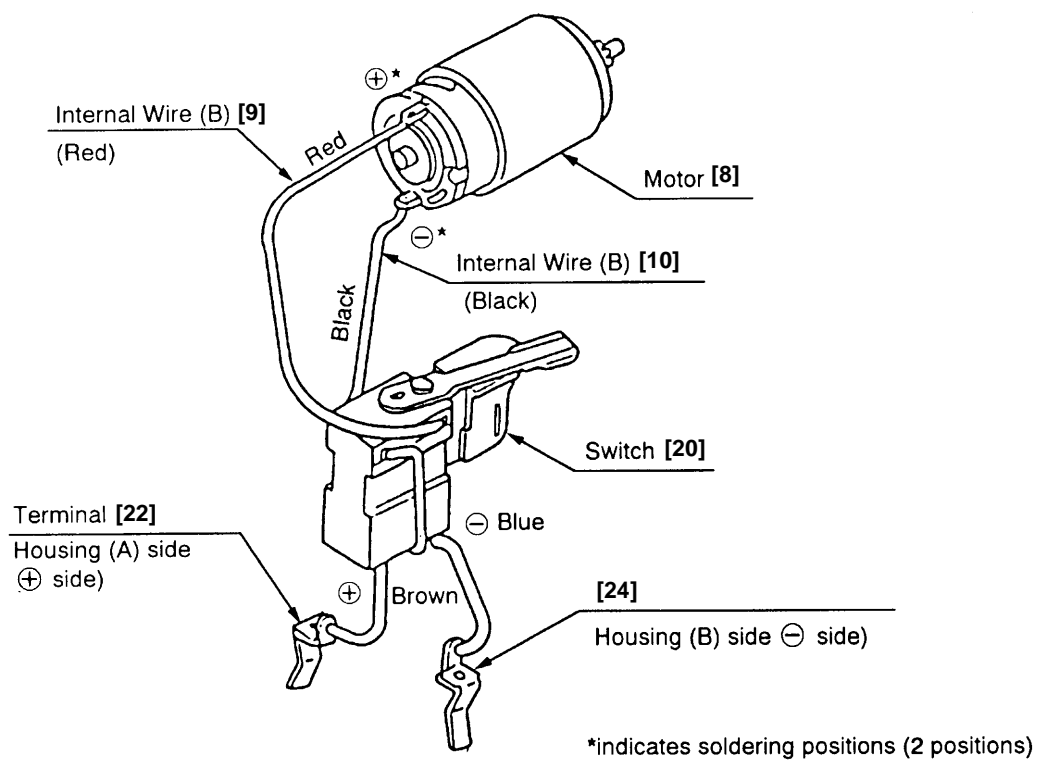
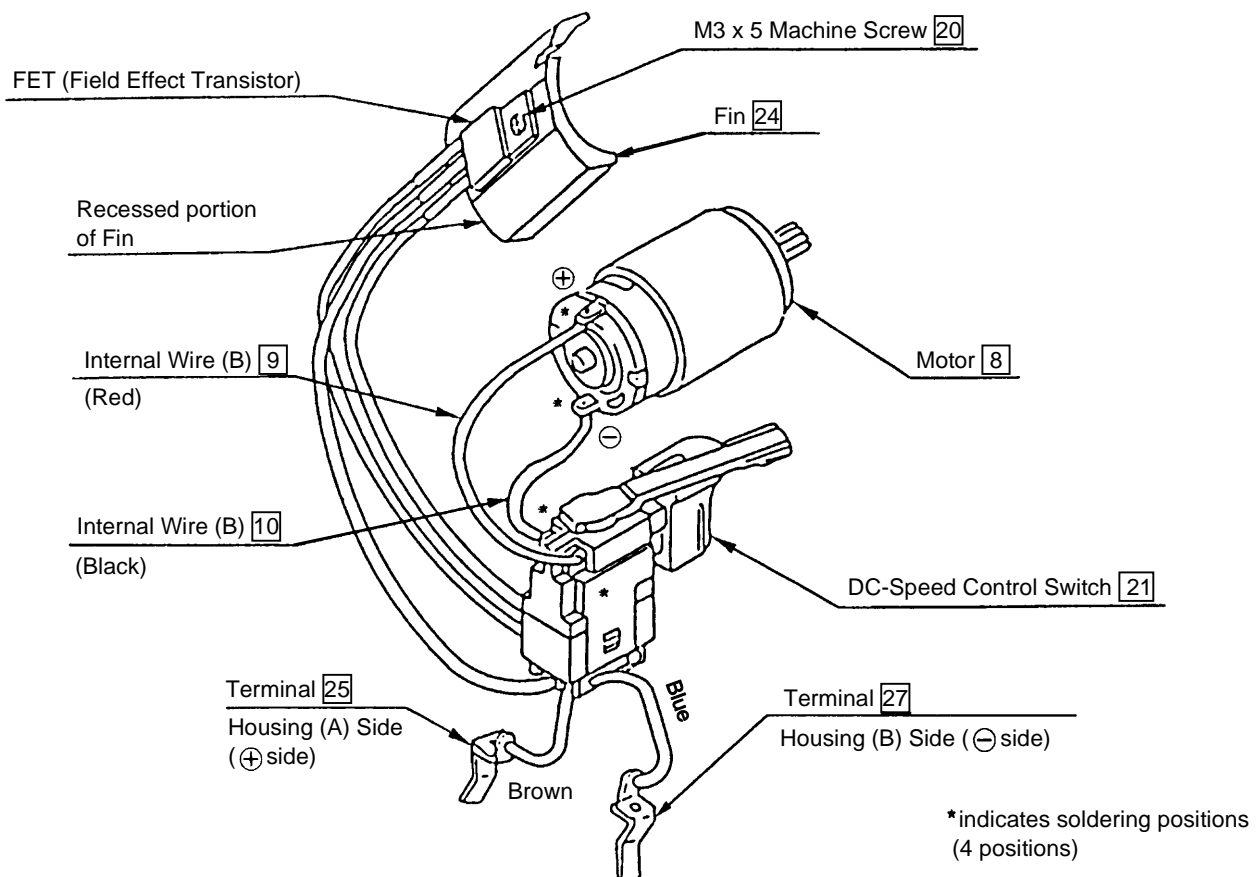
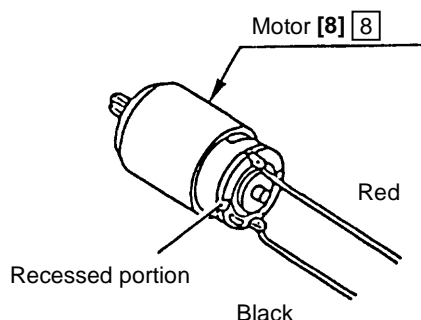

Fig. 3 Internal Wire Arrangement of the Model DN 7DT
Fig. 4 Internal Wire Arrangement of the Model DN 7DV
Fig. 6
- (1) Ensure that the wiring of the Model DN 7DT is connected in accordance with the internal wire arrangement illustrated in Fig. 3.
- (2) When inserting the internal wires into the terminals of the Switch [20], carefully confirm that the leaf spring connector for each wire is not excessively deformed. On completion of internal wire connections, ensure that they cannot be easily pulled out of the Switch when gently pulled by hand.
- (3) Ensure that the wiring of the Model DN 7DV is connected in accordance with the leadwire arrangement illustrated in Fig. 4.
- (4) When reassembling the Fin 24 to the FET of the DC-Speed Control Switch 21 , ensure that the Fin mounting direction is correct as indicated in Fig. 4. Also, ensure that the M3 x 5 Machine Screw 20 is tightened to rated torque: 0.3 - 0.4 Nm (3 - 4 kgfcm, 0.22 - 0.29 ft-lb)
- (5) Be very careful not to bend or otherwise damage the base portions of the internal wires of the FET which are connected to the DC-Speed Control Switch 21 .
- (7) When installing the Terminal **[22]** **[25]** (Brown) in Housing (A) **[18]** **[18]**, pay particular attention to polarity. (See Fig. 3 or Fig. 4)
- (8) When installing the Shift Knob **[11]** **[11]**, ensure that the Shift Spring **[19]** **[19]**, is properly installed in the Shift Spring chamber (recessed portion) of Housing (A) **[18]** **[18]**.
- (9) Ensure that the Motor **[8]** **[8]** is installed so that its recessed portion is properly aligned and engaged with the matching chock in the Housing (A) (B) Set **[18]** **[18]**. (See Fig. 6)